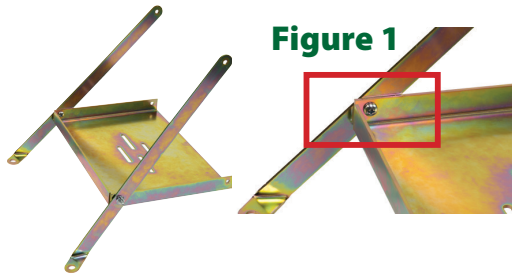

Figure 1
Step 1: Attach left and right stabilizer legs to battery box. Be sure to face the bolts outward as shown in Fig. 1. Note: This is the only attachment where bolts should face outward.